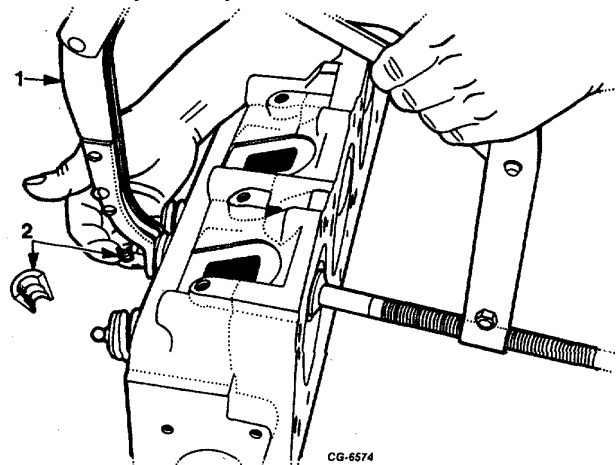

Fig. 110 Removing Valve Keepers
- a. Place head assembly in vertical position. Apply valve spring compressor and remove valve keepers or locks (Figure 110). It may be necessary to strike valve ends with a light, soft hammer to loosen valve keepers.